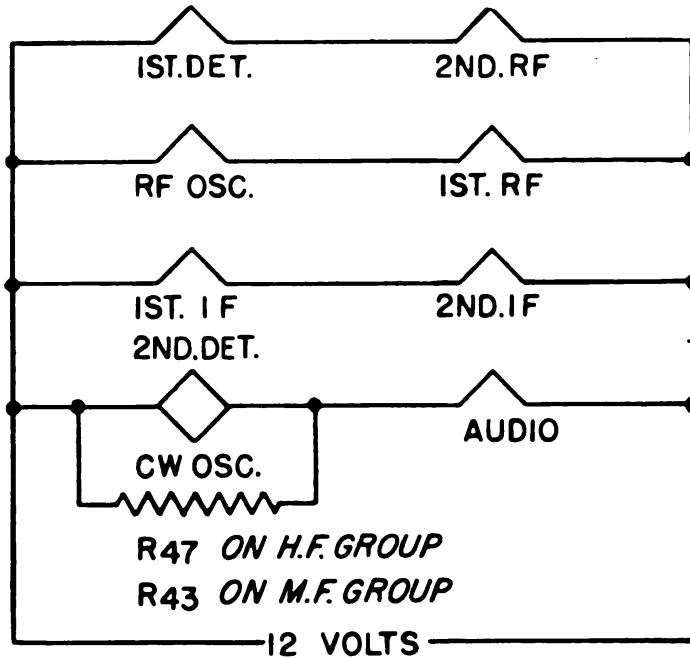
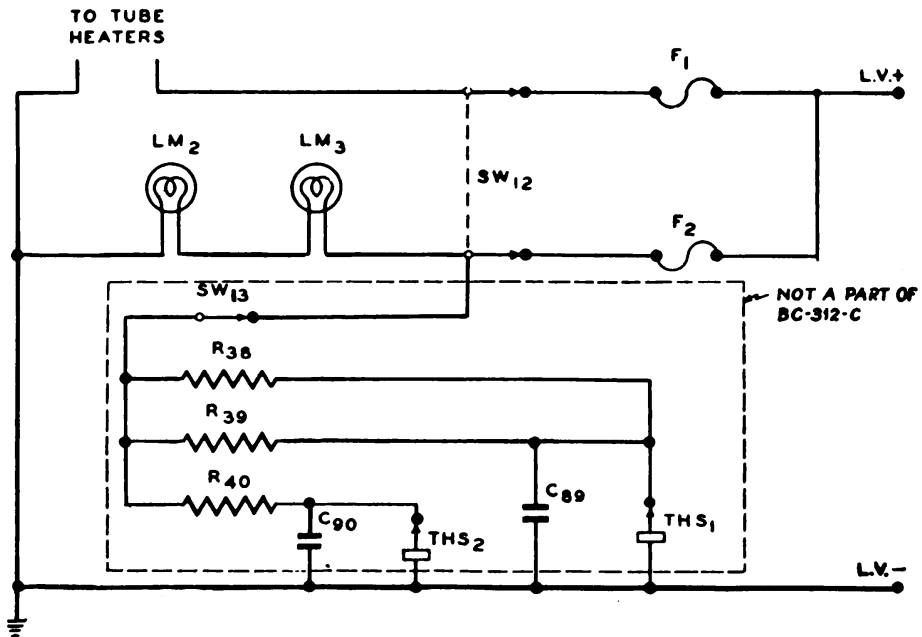
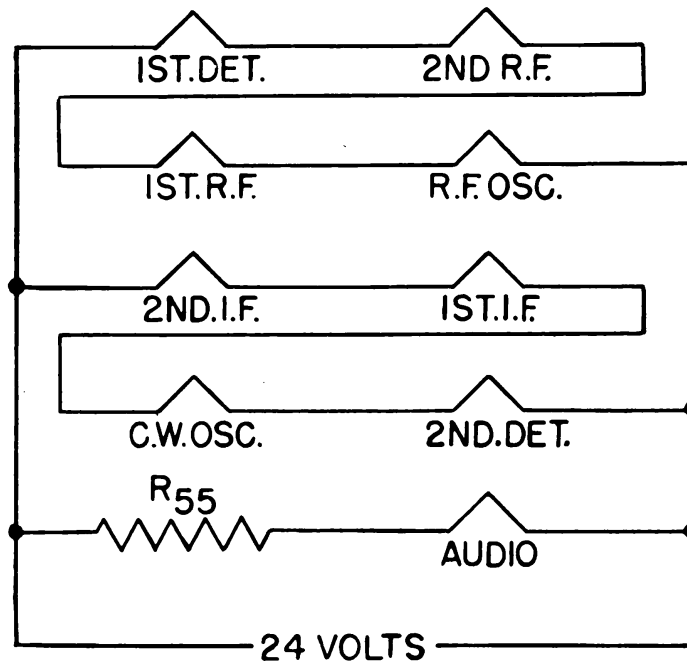

Figure 17.—Tube heater circuits in BC-312-(\*), BC-314-(\*), BC-342-(\*) and BC-344-(\*)
Figure 18.—Oscillator compartment heaters in BC-312, and BC-342.
Figure 19.—Tube heater circuits in BC-312-(\*X).
25. Heater Circuits (figs. 17, 18 and 19).—
in the receiver proper are connected in series-parallel (fig. 17). In Radio Receiver BC-312-(\*X) (fig. 19) resistor  $R_{55}$  is used as a filament-dropping resistor, in series with the heater of Tube VT-134. In Radio Receivers BC-312-(\*), BC-314-(\*), BC-342-(\*), and BC-344-(\*), (fig. 17) a resistor is connected in parallel with Tubes VT-88 and VT-65 to reduce the current flowing through the heater of these tubes to the correct value. Tube VT-97 is used in Rectifier RA-20, and its filament power is supplied by a separate winding on power transformer  $T_3$ . Tube heaters in the receivers are bypassed to ground through capacitors. In Receivers BC-312 and BC-342 the temperature of the oscillator compartment is thermostatically controlled by means of heaters (fig. 18).